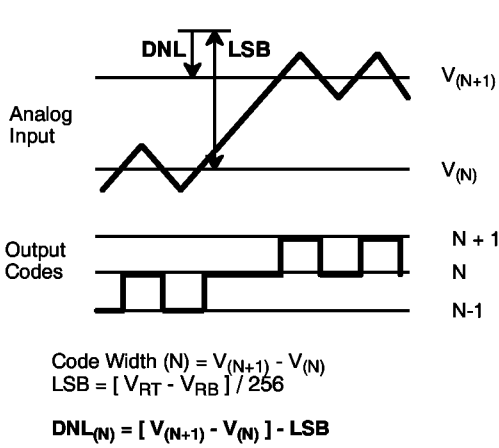
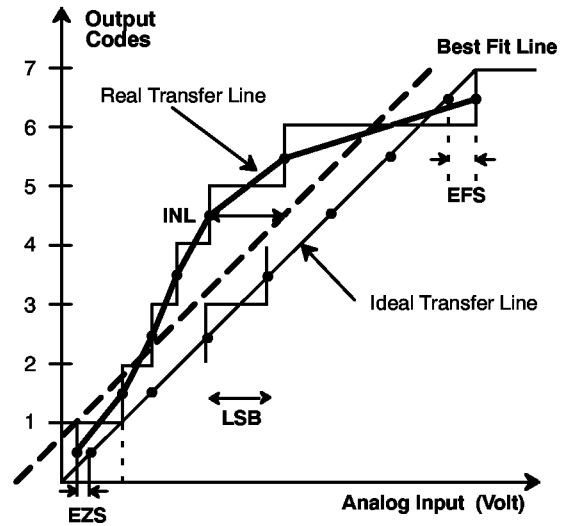

Figure 3. DNL Measurement
Figure 4. INL Error Calculation
- 1 Tester measures code transitions by dithering the voltage of the analog input (VIN). The difference between the measured and the ideal code width (VREF/256) is the DNL error (Figure 3). The INL error is the maximum distance (in LSBs) from the best fit line to any transition voltage (Figure 4). Accuracy is a function of the sampling rate (FS).